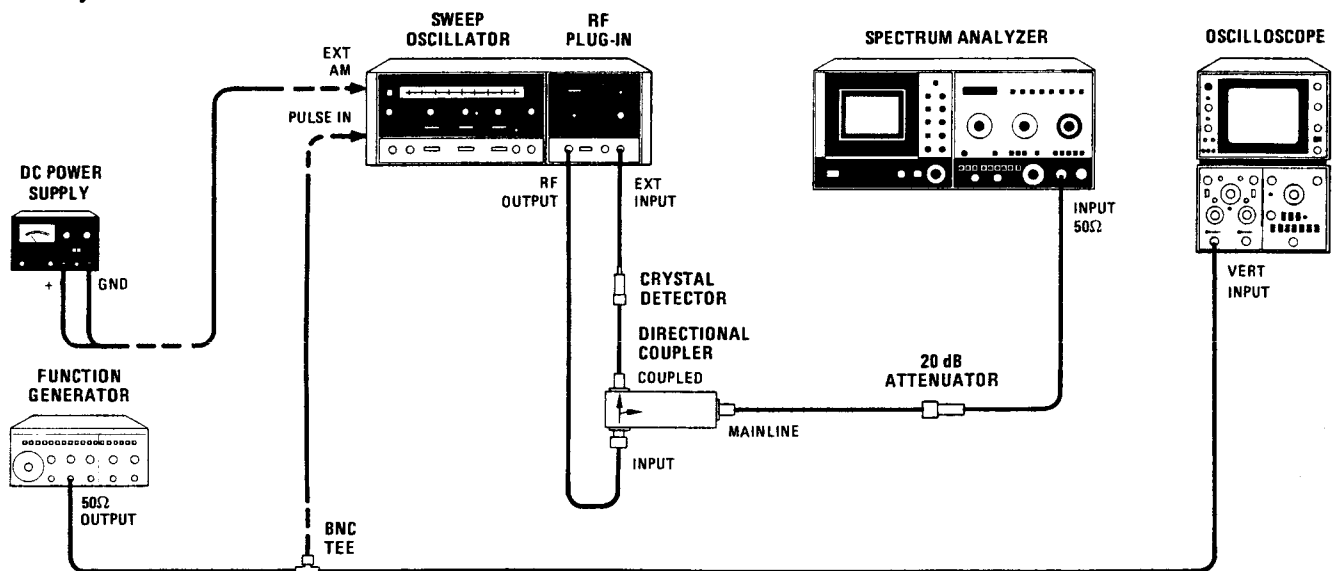

Figure 4-21. Amplitude Modulation Test Setup
- a. Connect equipment as shown in Figure 4-21, with spectrum analyzer connected to 20 dB attenuator and power supply connected to rear-panel EXT AM connector. Press 8620C LINE pushbutton to ON. Allow 30 minutes warmup time.
- f. Connect function generator to rear-panel PULSE IN connector and to CH A input of oscilloscope as shown in Figure 4-21. Set function generator for 27.8 kHz square wave and adjust for 6V peak-to-peak output as shown on oscilloscope (10 μSEC/DIV).